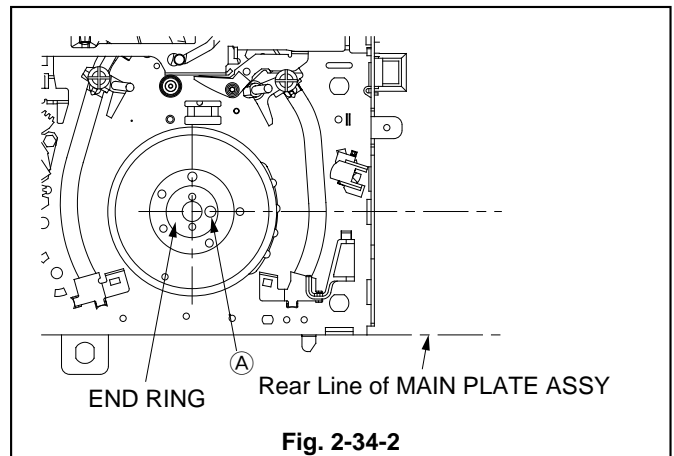

Fig. 2-34-2
3. Install the END RING so that the reference hole (A) of the END RING shown in the Fig. 2-34-2 will be placed in parallel with the Rear Line of the MAIN PLATE ASSY. (The reference hole (A) should be on the right when viewed from the bottom.)